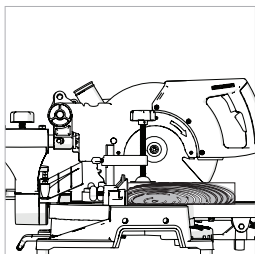

Fig. 28
- Always push the Cutting Head to the full rear position during each cut. **(Fig. 28)**